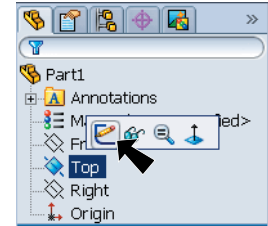

Fig. 1
Step 2. Click **Top** (plane) in the Feature Manager and click **Sketch**  from the Content toolbar, **Fig. 1**.